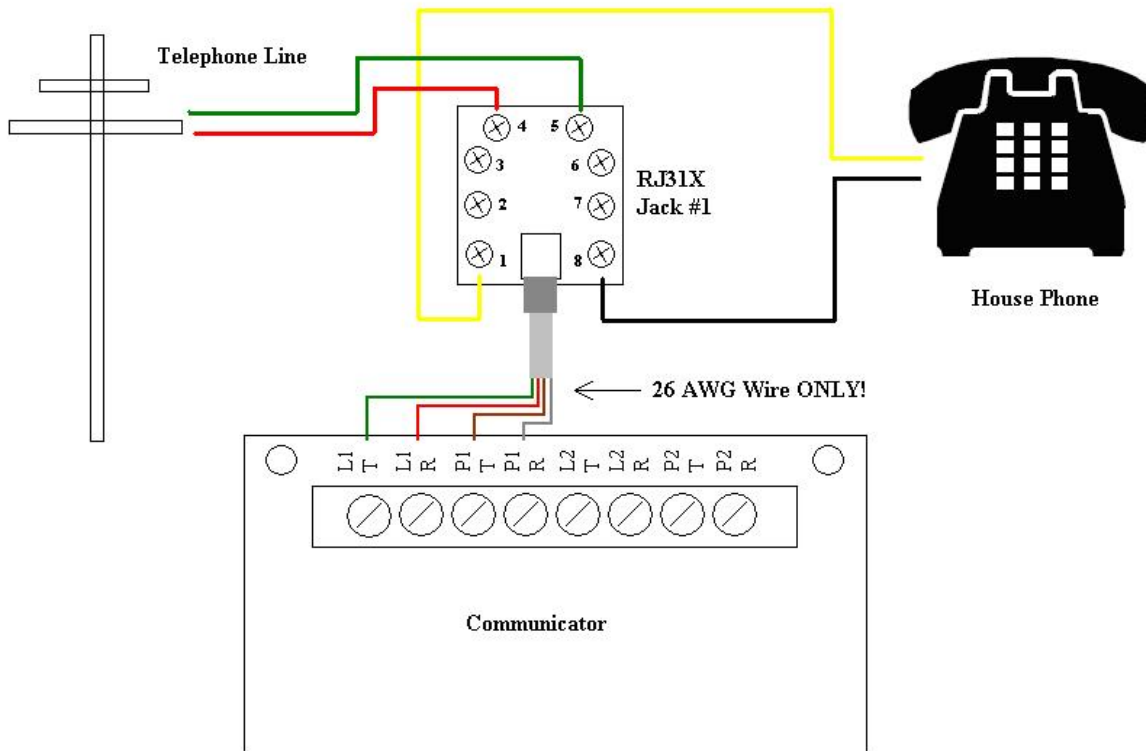

Figure 2.2.5 – Telephone Connections
- 4) Connect the telephone lines to the communicator. The communicator must be connected upstream of any private telephone system at the protected premise. See Figure 2.2.5.